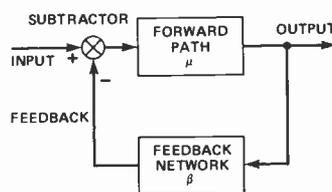
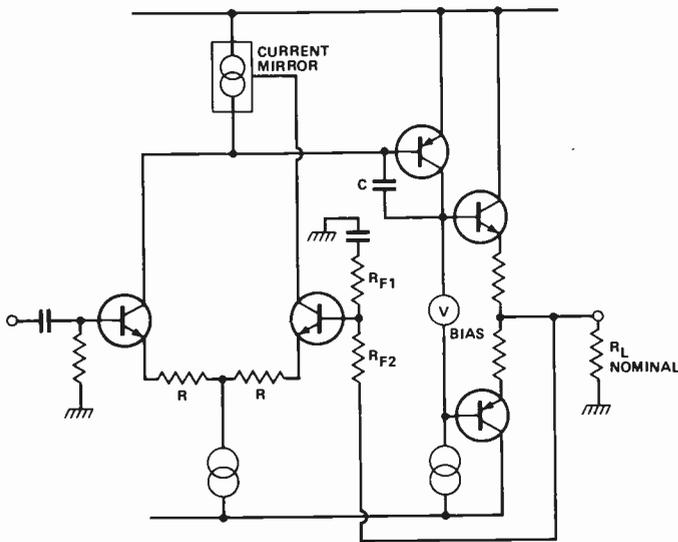
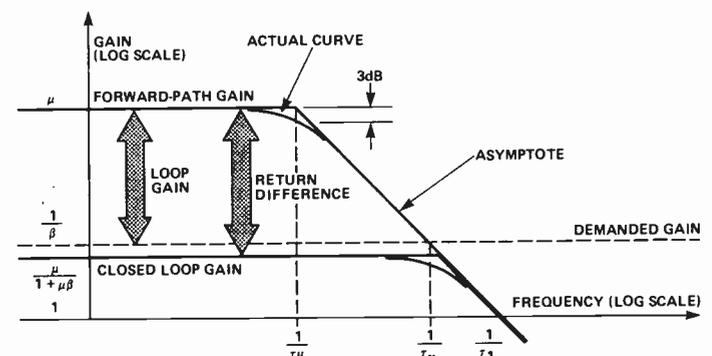

Fig. 1 Block diagram of a feedback amplifier.
Fig. 2 Outline circuit of an audio power amplifier.
Fig. 3 Logarithmic plots of gain versus frequency for Fig. 1.
Figure 1 is a block diagram of an amplifier with negative feedback. In this diagram, the forward path corresponds to the amplifier before feedback is applied, and its gain is traditionally designated by the Greek letter μ . The feedback network returns a fraction β of the output to the input circuit, where it is in some way subtracted from the true input to provide the actual input to the forward path.
In many practical amplifiers, the subtraction is accomplished by applying the input and feedback signals to the two inputs of a balanced differential first stage of the forward path. Figure 2 is an outline practical circuit. In this circuit the feedback factor β is the attenuation of the network comprising R_{F1} and R_{F2}
A typical value for an audio power amplifier might be 1/20. The forward-path gain μ in Fig. 2 corresponds to gain from input to output when the feedback network is removed. A typical value for a simple audio power amplifier might be 1000.
For Fig. 1, the overall closed-loop gain A is given precisely by
The quantity $\mu\beta$ is called the loop gain. Physically, loop gain is the gain that would be observed if the feedback 'loop' in Fig. 1 was cut at some point, a signal was injected into one side of the cut, and the resulting signal at the other side of the cut was measured.
More rigorous treatments of feedback theory show that Equation 7 is no more than a poor approximation to the truth. In the first place, real amplifiers are far more complicated than Fig. 1 suggests, because several different feedback paths (not all intentional!) can be identified. For example, the collector-base capacitances of transistors inevitably provide some unintended feedback at high frequencies. There is a very real problem in interpreting just
If the magnitudes of the forward-path gain and demanded gain of the idealised Fig. 1 are plotted versus angular frequency ω (in radian/second) on logarithmic scales, the resulting graph looks something like Fig. 3. The 3 dB bandwidth of the amplifier without feedback is $1/\tau_\mu$, and the gain-bandwidth product (at which gain drops to unity) is $1/\tau_x$.
By a similar argument, return difference is the separation between the curves of forward-path gain and closed-loop gain, as indicated in Fig. 3.
We could make a similar graph to Fig. 3, showing the phases of μ and $1/\beta$. Again, the phase of loop gain would turn out to be the separation between the two curves. However, there is a remarkable piece of mathematics due to Bode, who used a transformation evolved by Hilbert (1862-1943), which shows that there is a relation between the magnitude and phase of the response of any linear system. Subject to some qualifications, our proposed graph of the phases is completely predictable from Fig. 3 and contains no new information. Interested readers may refer to Chapter 14 of Bode's book (Reference 10) but are warned that it is anything but easy going!
As an example, many readers will know that, if the forward-path in Figs. 1 and 2 has a high-frequency cut-off rate variously described as single pole, 20 dB/decade, or 6 dB/octave, then its phase shift is 45° at the 3 dB cut-off frequency $1/\tau_\mu$, and is asymptotic to 90° at very high frequencies.
Because the phase of return difference can be predicted from Fig. 3 via Bode's result a Nyquist diagram can also be constructed from Fig. 3 and the onset of instability can be predicted. In 1945 Bode showed that Nyquist's criterion could in fact be expressed in terms of the gradients of the curves in Fig. 3, thereby eliminating the work of finding the phase explicitly and plotting the Nyquist diagram. Bode's exact rule is complicated, but a useful paraphrase is
"If in graphs such as Fig. 3 the separation between the forward-path gain and demanded gain decreases toward zero at a rate not exceeding 30 dB/decade, the amplifier is unlikely to oscillate."
"In graphs such as Fig. 3, the separation between the forward-path gain and demanded gain should not decrease towards zero at a rate exceeding 20 dB/decade."
In Fig. 2, the first stage is a long tailed pair with a current mirror at its output; the input and feedback signals are applied to the two bases to perform the subtraction process of Fig. 1. The second stage provides a large voltage gain, and the lag compensating capacitor C provides the dominant pole of the forward path corresponding to $1/\tau_x$ in Fig. 3. The third stage is a complementary class-B emitter follower whose function is to transfer the output voltage from the second stage to the loudspeaker load. In practice, the transistors in the second and third stages are often Darlington's, and the input transistors are often replaced by FETs.
transistors is a fraction of a nanosecond, but for power transistors of the ubiquitous 2N3055 class the transit time may be as long as a few tenths of a microsecond. Thus, the output stage of Fig. 2 may have a pole in the vicinity of 1 MHz.
As we saw in the previous section, the unity-loop-gain frequency $1/\tau_x$ in Fig. 3 must be substantially less than the frequency of all poles except the dominant pole $1/\tau_x$ if an amplifier is to be stable. If the power transistors are of the 3055 class then, no matter how fast the other transistors may be, there is going to be one pole at about 1 MHz. Therefore $1/\tau_x$ must be chosen to correspond to something like 200 kHz. Even with more modern power transistors, $1/\tau_x$ is restricted to about 1 MHz. The art of designing a stable power amplifier involves choosing the lag compensating capacitor C such that $1/\tau_x$ is appropriate to the transistors actually used.
The geometry of Fig. 3 is such that, no matter how μ , β and τ_x are separately chosen, the return difference $F(\omega)$ at any angular frequency ω cannot exceed
Figure 10 shows how an amplifier of the basic topology of Fig. 2 can be modified to include two NDFLs. Interested readers should refer to references 11, 12 for more details.
Notice first that the lag compensating capacitor, C, in the penultimate stage of Fig. 2 has been removed in Fig. 10. In its place are two capacitors (C) linking the output back to various points in the forward path. These capacitors are the feedback networks of the nested differentiating feedback loops.